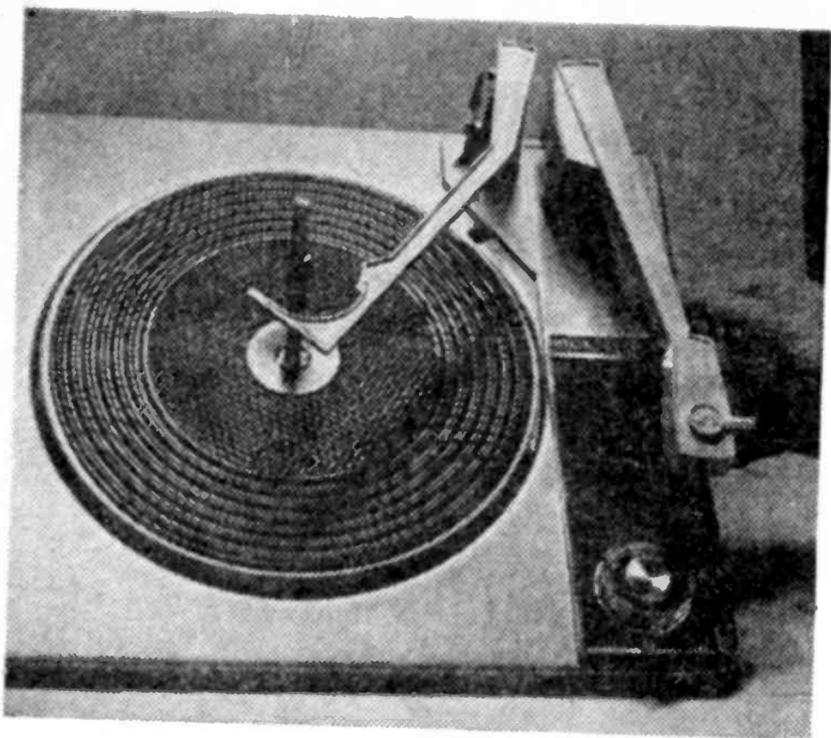

Fig. 19. Using a changer in "manual," be careful not to drop arm as record, stylus, and cartridge may be damaged.
**Defective Cartridge.** A defective phono cartridge may be cracked, become weak, and produce distorted, intermittent or mushy sound. The weak or dead cartridge will produce mushy or no sound in the speaker. A cracked cartridge will work intermittently. A cracked cartridge may result from dropping the pickup arm. See Fig. 19.